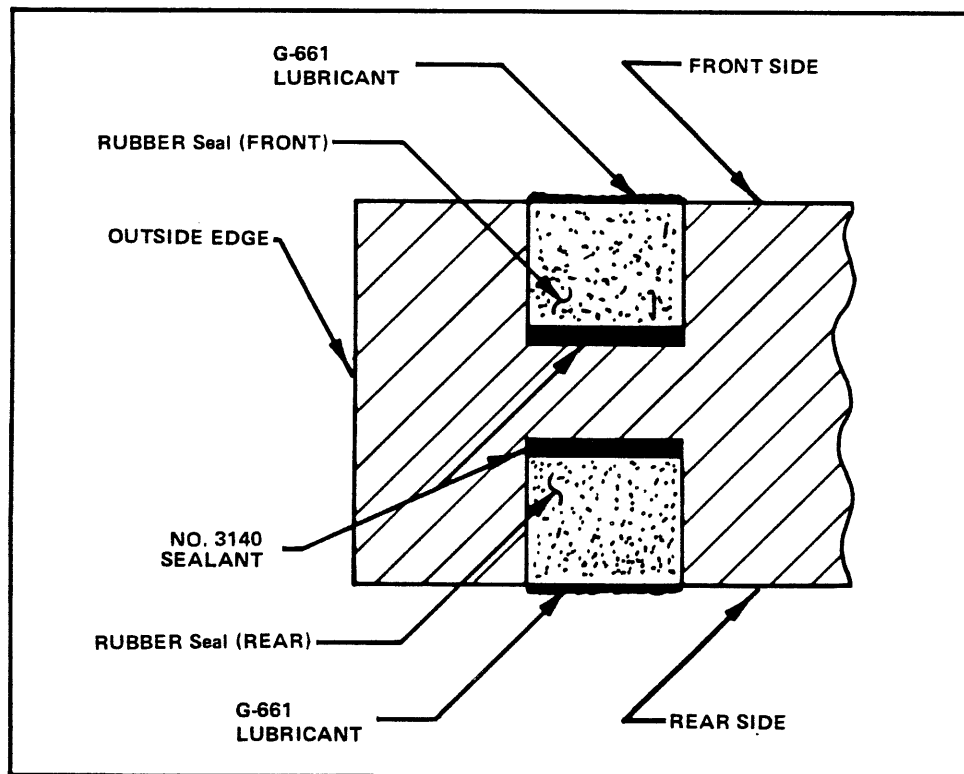

Figure 2. Rubber Seals, edge sealing for subpanel.
- (1) Clean the rubber seals with acetone.
- (2) Apply a film of No. 3140 sealant to the inner surface of each groove See Figure 2. Do not apply the sealant to the other surfaces of the grooves. No. 3140 is more fluid than No. 3144 and can be applied with a hypodermic type applicator.
- (3) Place a seal in each groove. Trim each seal to a length such that its ends butt together. Apply a film of No. 3140 sealant to the Butt joint.
- (4) Before installing the instrument in a cabinet, lubricate the outer edges of the seals as shown in Figure 2.